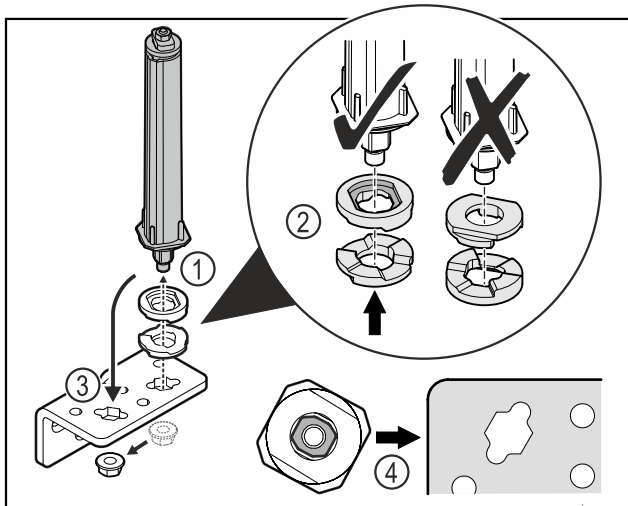

Fig. 47
- ▶ Loosen the nut and remove the door closing system Fig. 47 (1).
- ▶ Observe the correct alignment of the height adjustment washers Fig. 47 (2).
- ▶ Put the door closing system in the hinge and fix in place with the nut Fig. 47 (3).
- ▶ Observe the correct alignment of the door closing system when doing so Fig. 47 (4).